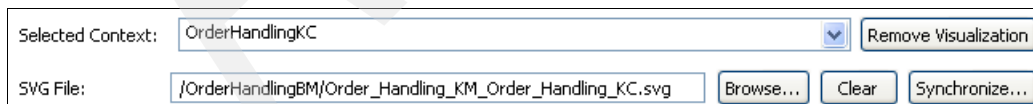

Figure 8-130 Setting the .svg file for KPI context
4. Scroll up to Selected Context and select **OrderHandlingKC**, and for SVG file, select **/OrderHandlingBM/Order_Handling_KM_Order_Handling_KC.svg** (Figure 8-130).